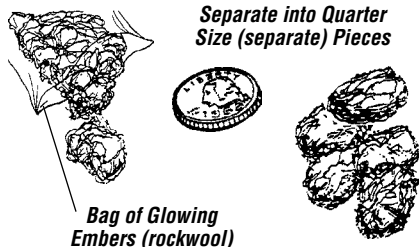

Figure 22
2. Separate the glowing embers (F) into quarter size pieces and place along ports on burner pan. DO NOT cover burner secondary holes on burner pan. The pattern for the glowing embers should be similar to what is shown in **Figure 22**.